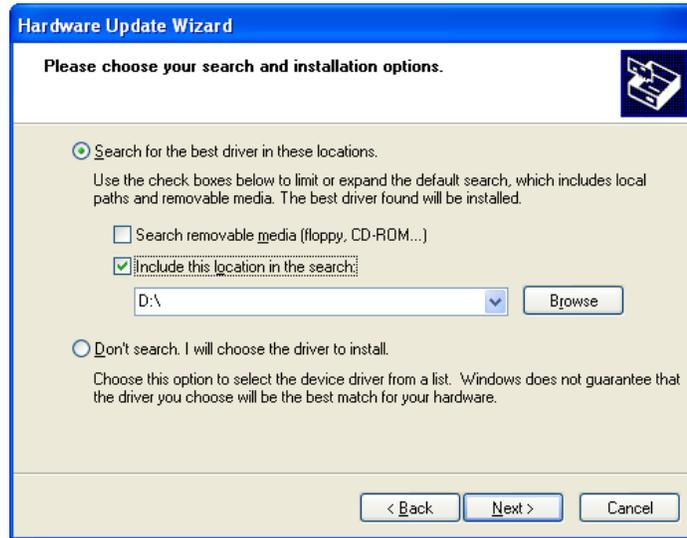

Figure 6-40: Search Options Window
Step 10: The following window (**Figure 6-40**) appears.